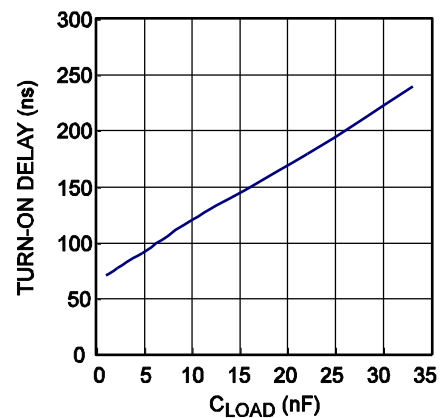

**Figure 11: Synchronous Rectification Typical Waveform in LLC**
Figure 11 shows the typical waveform of the LLC on the secondary side. To achieve a fairly high usage of the MOSFET's  $R_{DS(ON)}$ , it is expected that the MOSFET driver voltage is kept at the maximum level until the last 25% of the SR conduction period.  $V_{DS}$  can be calculated using Equation (2):